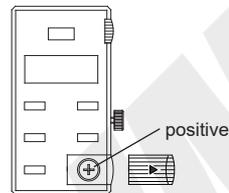

fig.1
1. Put battery into scale, the positive side of battery should face out (fig.1).